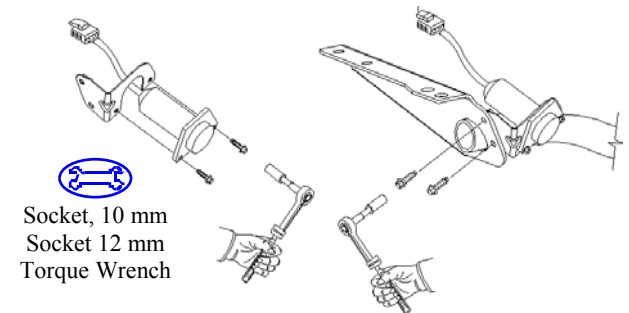

Fig D-1
-  1. Install 7-pin wiring harness (removed in Step B. 8.) to the provided wiring bracket using two (2) M6-1.00x20mm bolts. (Fig. D-1)
-  2. Install wiring bracket to inside surface of the driver side hitch bracket using two (2) M8x1.25x20 black bolts with trapped washers. (Fig. D-1)
-  4. Tighten the M8 bolts to 19 +/- 4 lbf-ft (25 +/- 5 N-m). (Fig. D-1)
-  5. Tighten M6 bolts to 94 +/- 19 lbf-in (10.4 +/- 2 N-m). (Fig. D-1)